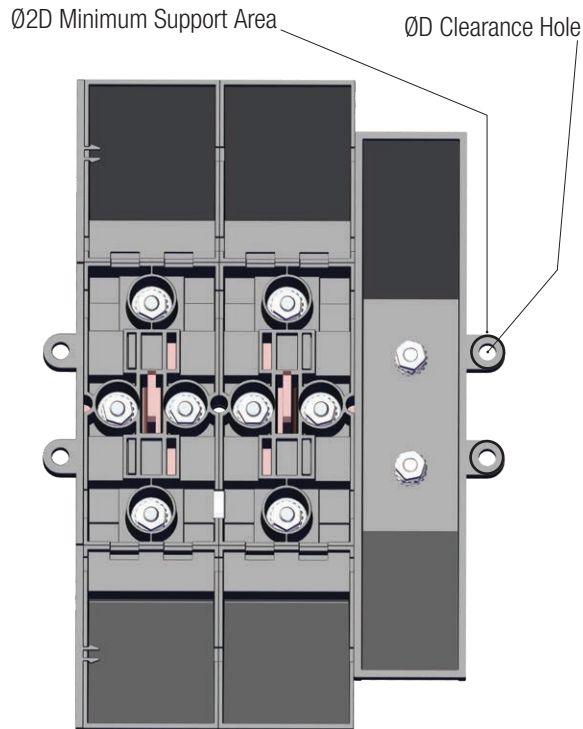

Figure: 4-4
1. Mount the base plate assembly using the provided clearance holes for socket head cap screws. See **Figure: 4-4**.